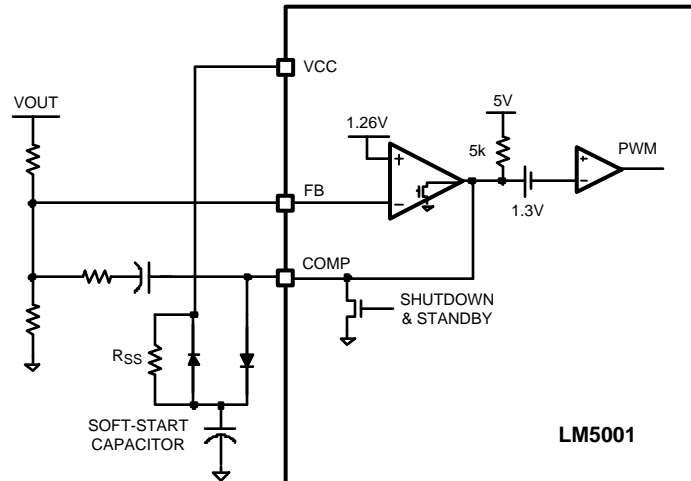

Figure 20. Soft-Start
Internal Thermal Shutdown circuitry is provided to protect the IC in the event the maximum junction temperature is exceeded. When the 165°C junction temperature threshold is reached, the regulator is forced into a low power standby state, disabling all functions except the VCC regulator. Thermal hysteresis allows the IC to cool down before it is re-enabled. Note that since the VCC regulator remains functional during this period, the soft-start circuit shown in Figure 20 should be augmented if soft-start from Thermal Shutdown state is required.
Soft-start (SS) can be implemented with an external capacitor connected to COMP through a diode as shown in Figure 20. The COMP discharge MOSFET conducts during Shutdown and Standby modes to keep the COMP voltage below the PWM offset (1.3V), which inhibits PWM pulses. The error amplifier will attempt to raise the COMP voltage after the EN pin exceeds the 1.26V standby threshold. Because the error amplifier output can only sink current, the internal COMP pull-up resistor (~5 k $\Omega$ ) will supply the charging current to the SS capacitor. The SS capacitor will cause the COMP voltage to gradually increase, until the output voltage achieves regulation and FB assumes control of the COMP and the PWM duty cycle. The SS capacitor continues charging through a large resistance,  $R_{SS}$ , preventing the SS circuit from interfering with the normal error amplifier function. During shutdown, the VCC diode discharges the SS capacitor.